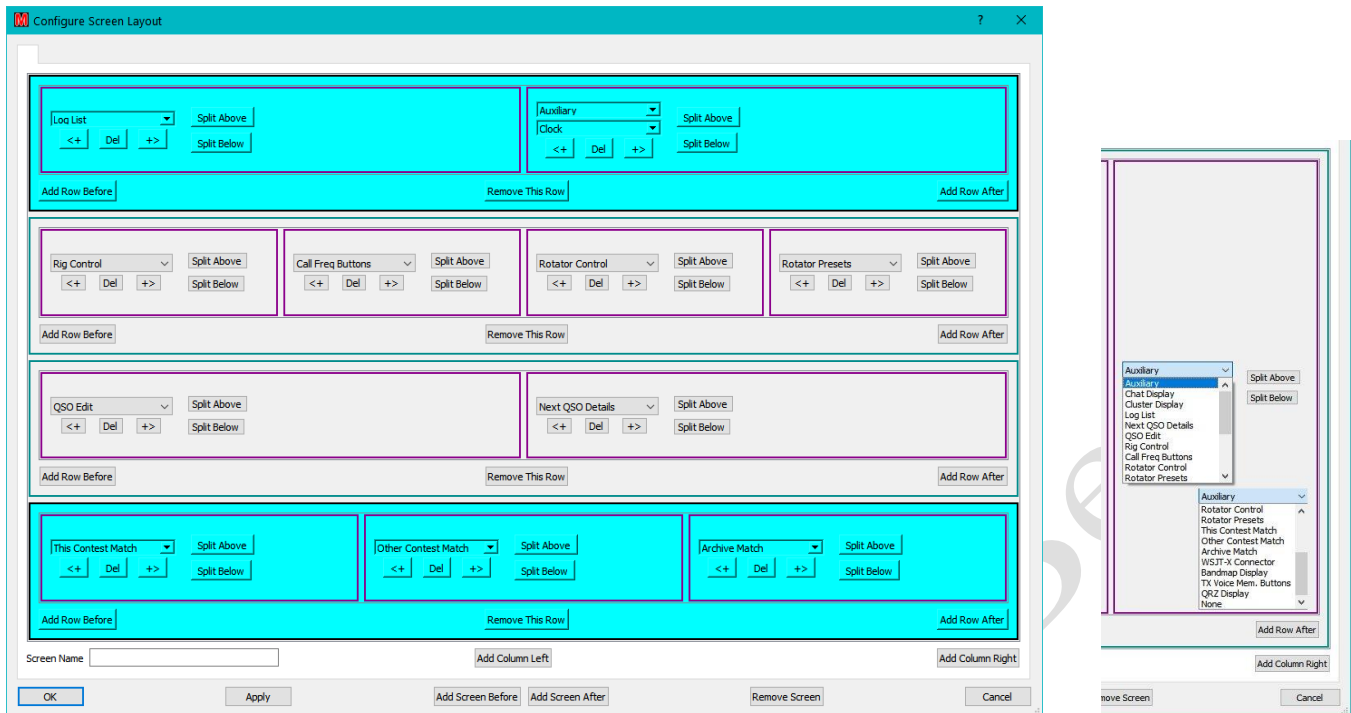

Figure 53 – Add column to left/right
- “**Add Column Left/Right**” is typically used for the Bandmap Display⁵⁴ (Figure 53 right), although other panels may be configured. The extent of the column is marked using the CTRL key (Figure 53 left) and clicking to select the top and bottom rows, then clicking the requisite button⁵⁵.